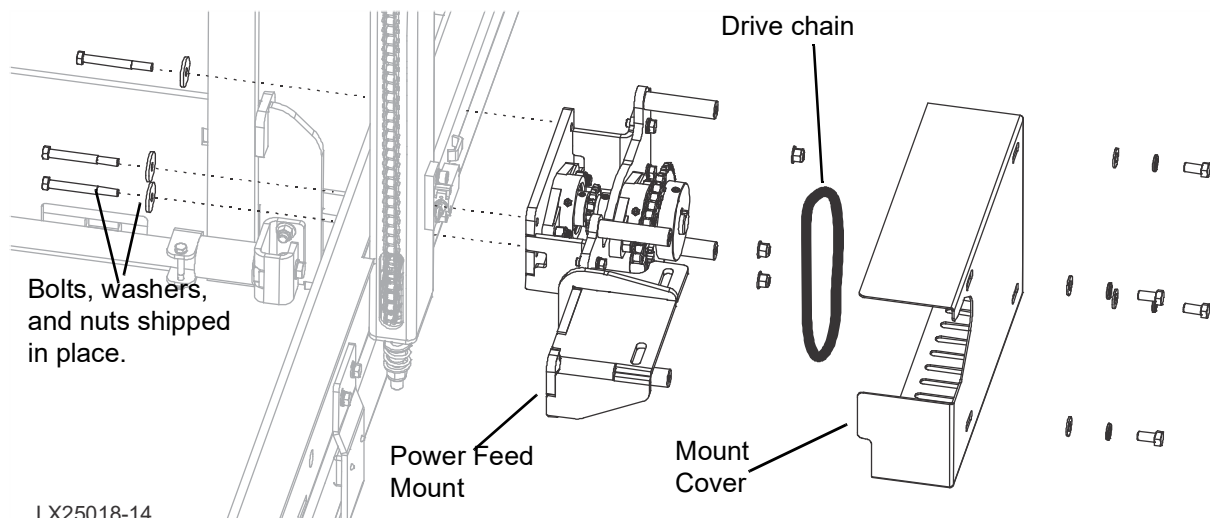

FIG. 3-16
3. Assemble the Power Feed mount (without cover) as shown in Fig 3-16.
See Figure 3-16.
9. Install the Mount Cover. (See Fig. 3-16.)